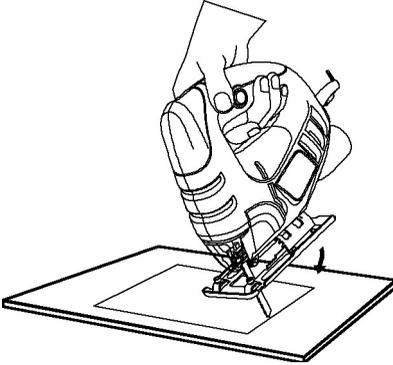

Fig. 7
3. Tilt the saw forward so it rests on the front edge of the sole plate and in a position so the blade will NOT touch the workpiece when the switch is turned ON (Fig. 7).